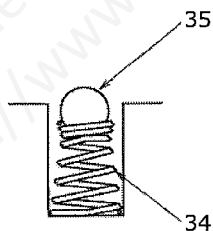

Fig.21
- 3) Assemble Cylinder(10) and Cylinder holder(20) so that the distance between Bearing nut(16) and Cylinder is the same as the distance measured during disassembly.
- 4) Install Spring(34) as shown in Fig. 21.